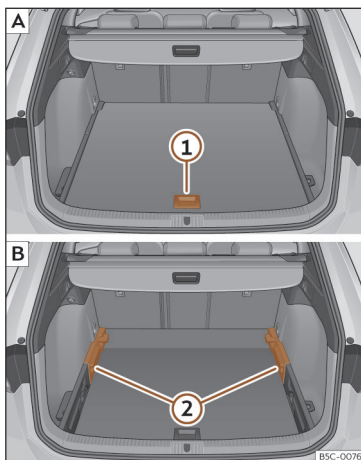

Fig. 187 Variable luggage compartment floor: **A** raised position; **B** lowered position.
- To move from the low position to the high position, lift the floor using the handle >>> **Fig. 187** (1), and pull it back until the front of the floor has fully passed the supports (2).
- Move the floor forward over the supports as far as the rear seat backrest and then lower the floor with the handle (1).
- To move from the high position to the low position, lift the floor using the handle >>> **Fig. 187** (1), and pull it back until the front of the floor has fully passed the supports (2).
- Now let the front part fall to the floor and slide the floor forwards as far as the rear seat backrest; lower the floor at the same time with the handle (1).
- Lift the variable floor in the high position using handle >>> **Fig. 187** (1), pull it up and push it towards the backrest of the rear seats until it folds along the hinge line and the movable part of the floor is resting on itself.